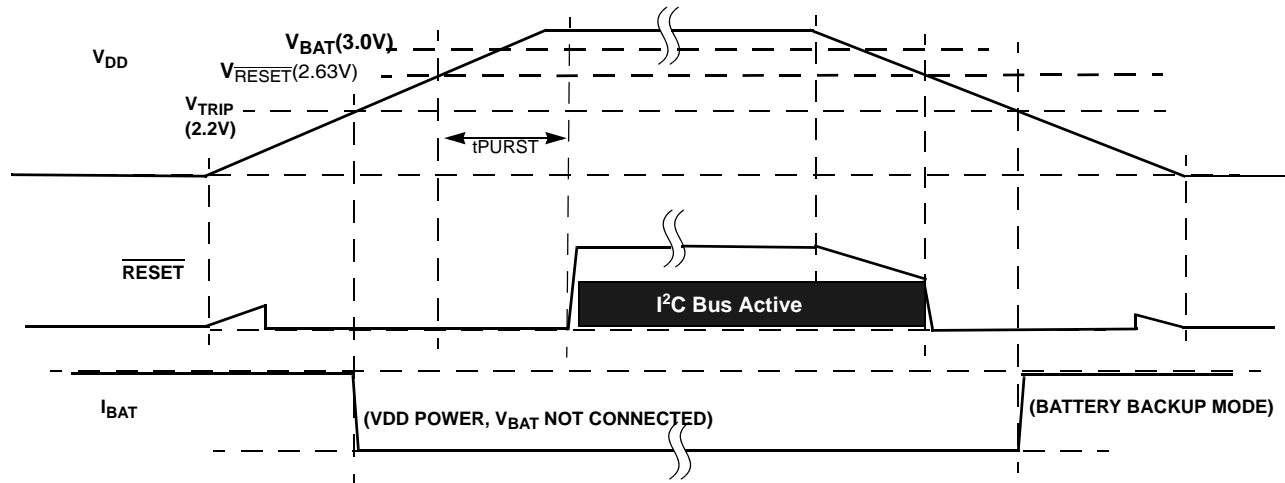

FIGURE 29. EXAMPLE RESET OPERATION IN MODE A OR C
- Mode A - In this mode selection bits indicate a low V_{DD} switchover combined with I²C operation in battery backup mode. In actuality the V_{DD} will go below V_{RESET} before switching to battery backup, which will disable I²C ANYTIME the device goes into battery backup mode. Regardless of the battery voltage, the I²C will work down to the V_{RESET} voltage (See Figure 29).
- Mode D - In this mode the selection bits indicate switchover to battery backup at $V_{DD} < V_{BAT}$, and no I²C communications in battery backup. This mode is unique in that there is I²C communication as long as V_{DD} is higher than V_{RESET} or V_{BAT} , whichever is greater. This mode is the safest for guaranteeing I²C communications only when there is a Valid V_{DD} (see Figure 29).